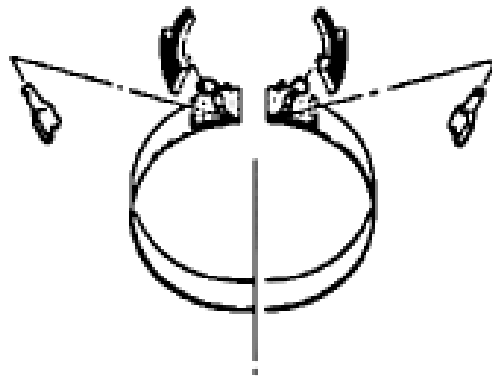

Figure 8.23 Installation of brake belt press lever
- c. Install the support retainer on the brake belt (Refer to Figure 8.23).Note that the later transmission modes will not adopt the support retainer.